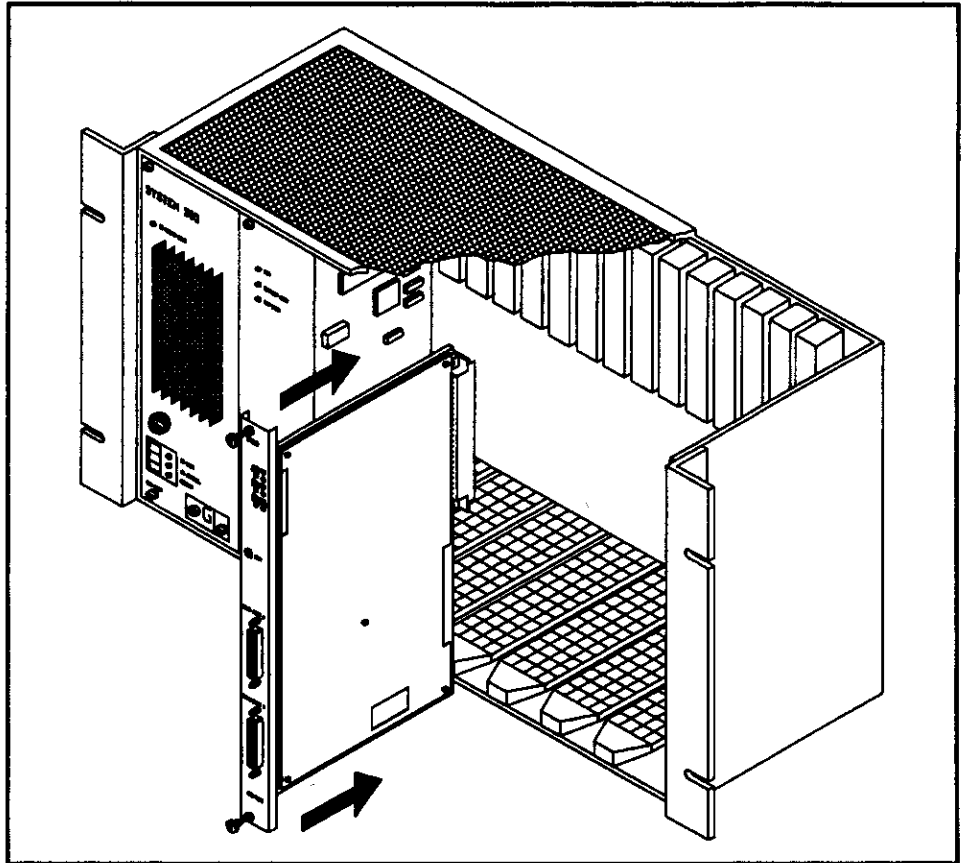

Figure 2-2 Inserting the Programmable BASIC Module
1. Position the module so that the front bezel is facing you as shown in Figure 2-2.